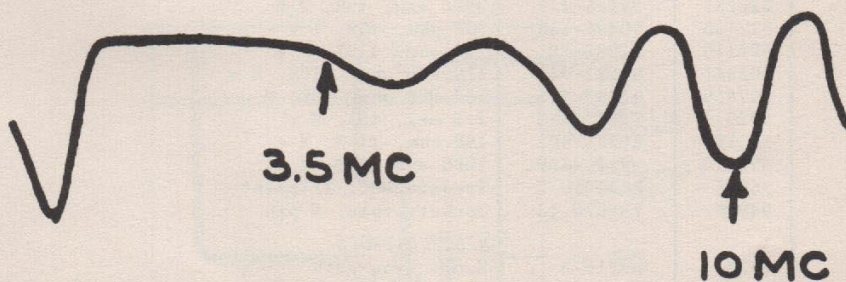

Figure 3—Response Curve for C6 and C10 (8905201, sub 0)
4. Adjust C6 and C10 to obtain a response curve similar to that shown in Figure 3.